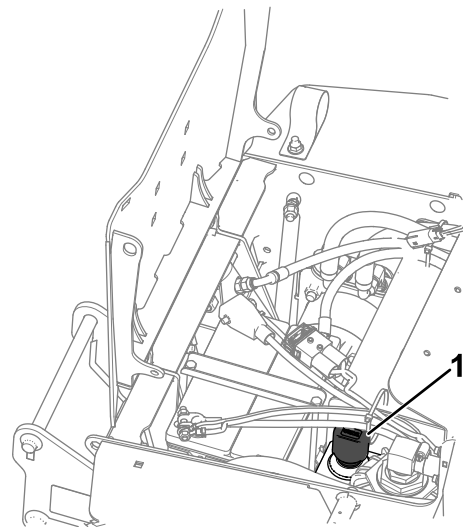

Figure 49
4. Clean the area around the hydraulic tank breather/dipstick (Figure 49).